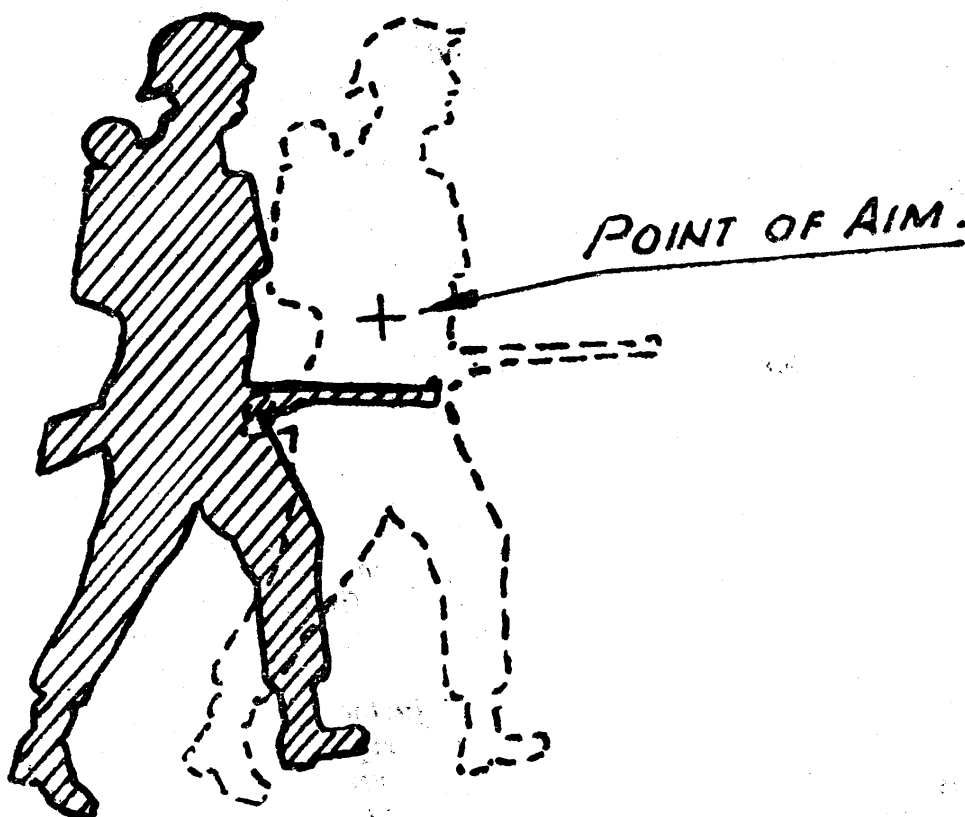

Fig. 14a
- i. Aim off at man walking - 1 man's width. (Fig. 14a.)